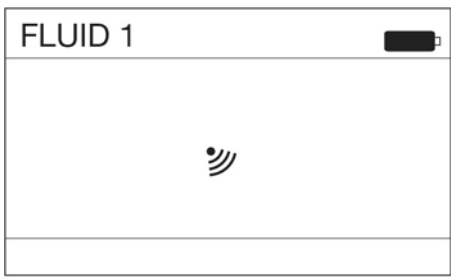
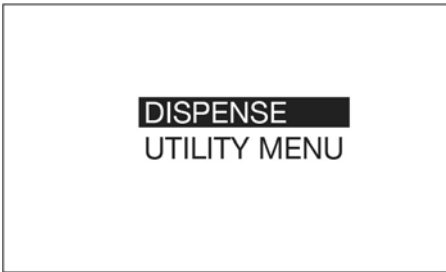

FIG. 55
FIG. 69
1. Press the center ENTER button on the keypad to activate the meter, waking it from sleep mode. The screen shown in FIG. 55 displays.
NOTE: The screen in FIG. 55 only appears in Preset Mode the first time the meter is powered on. After the first power on, a meter in Preset Mode must be **RESET** to get to this screen. See **RESET** instructions, page 22.
1. Press the center ENTER button on the keypad to activate the meter. The screen shown in FIG. 55 displays.
2. Press the center ENTER button on the keypad a second time to bypass the screen in FIG. 55. The Main Menu screen shown in FIG. 69 displays.